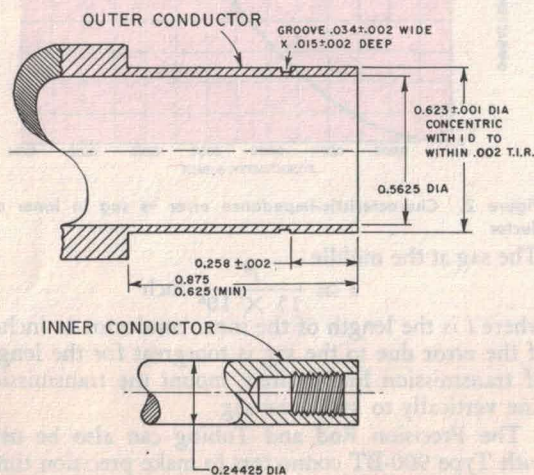

Figure 3. Machining for use with Type 900-BT connector.
- A.** Cut the tubing 0.25 inch longer than required. In both ends, machine centers that have a 60° pitch and a depth of $\frac{1}{16} \pm \frac{1}{64}$. Chuck the piece on the centers and turn the outer diameters at the ends down to $0.810 \begin{smallmatrix} +0.001 \\ -0.000 \end{smallmatrix}$. Figure 3 shows the minimal area to be turned down.
- (1) to 0.690 inch;
- (2) to 0.630 inch;
- (3) to 0.623 ± 0.001 inch* (final dimension).